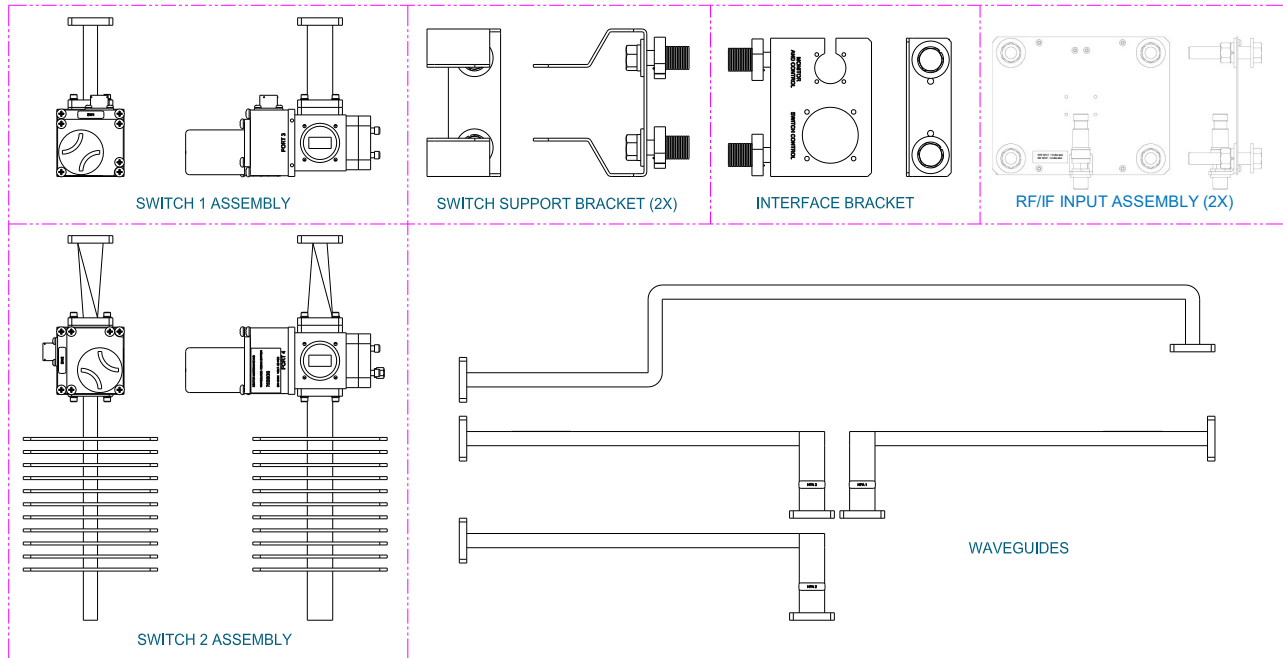

Figure 2-5: Ku-Band Components, Switches, Support Brackets, and Waveguide
The redundant system was shipped with the following components that comprise the waveguide switch array: a switch 1 assembly, a switch 2 assembly with termination, two (2) switch support brackets, an interface bracket, two (2) RF/IF input assemblies, and waveguide segments that connect between the output of the HPAs and the switches. See **Figure 2-5**.